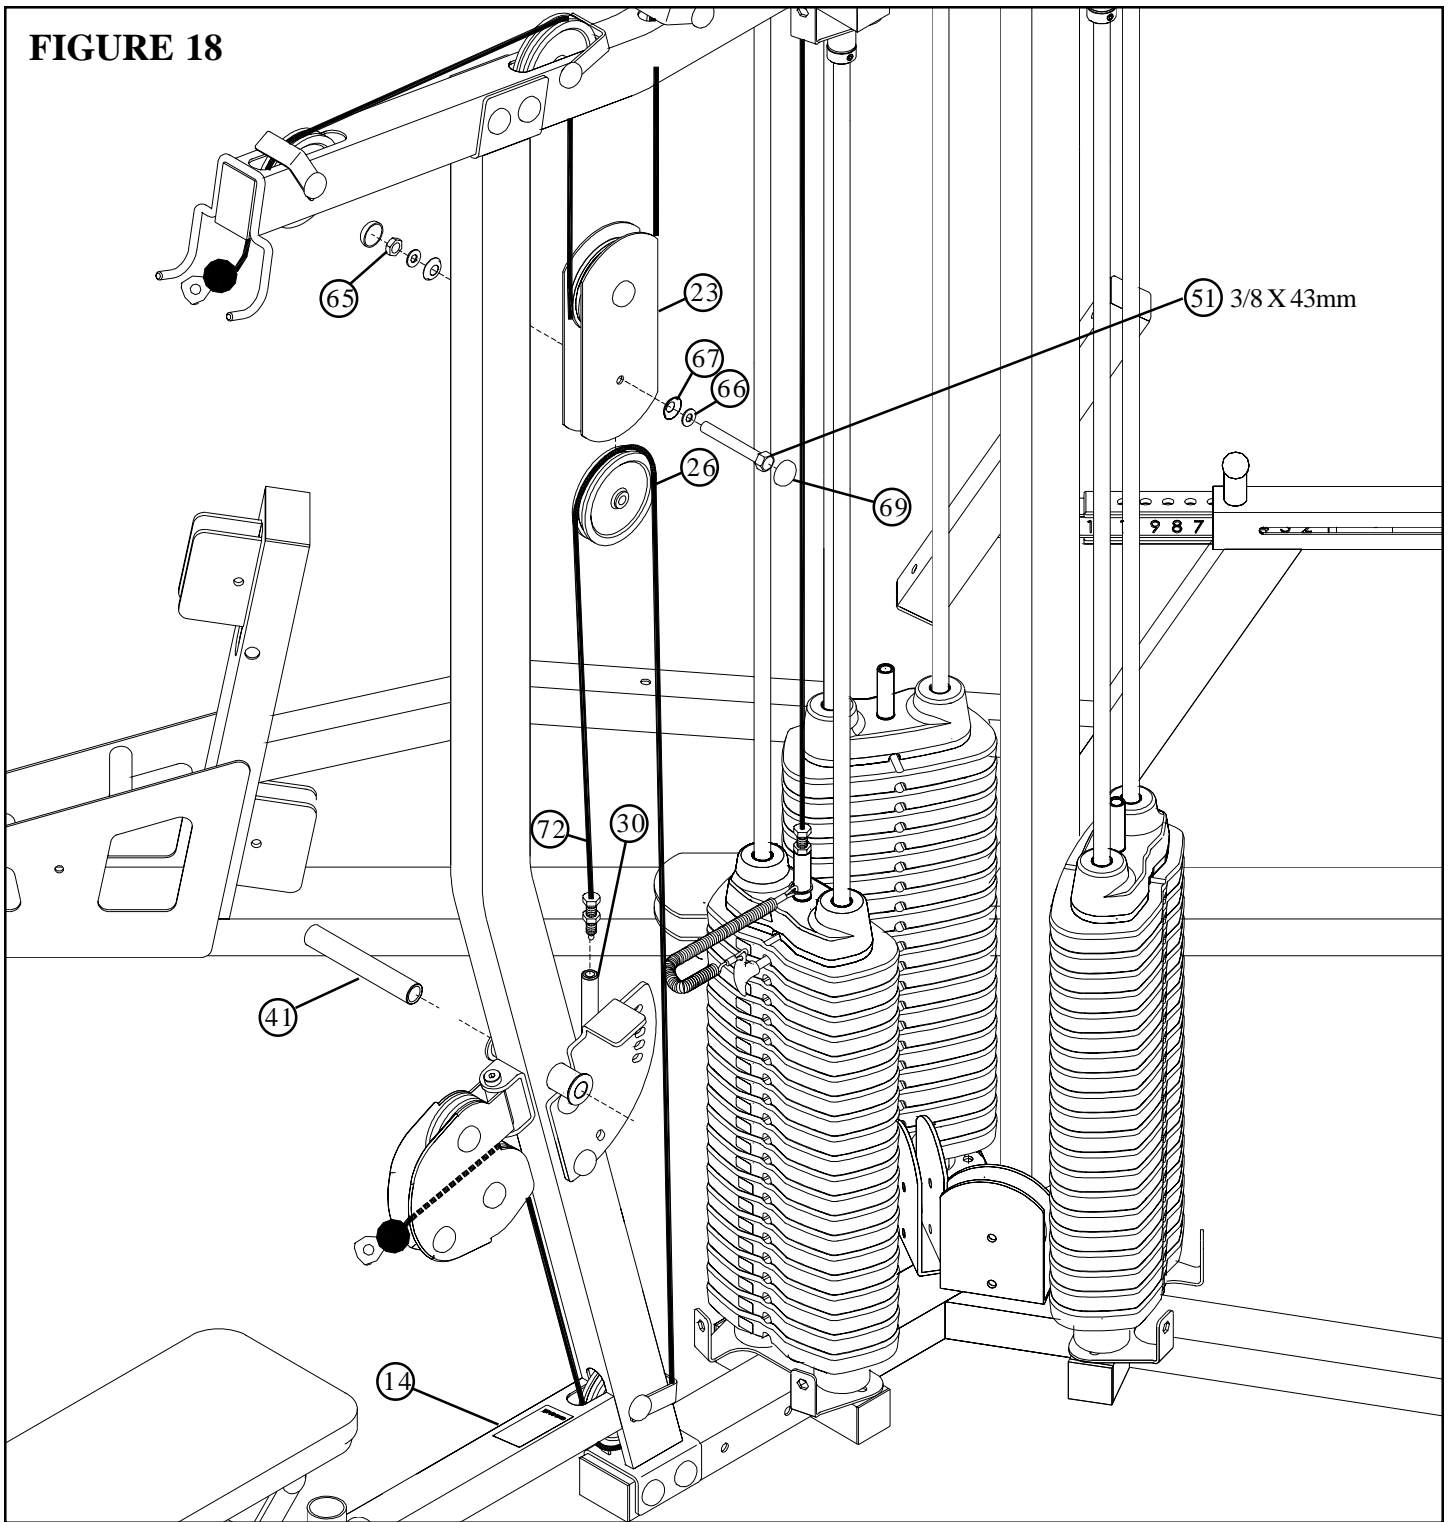

**FIGURE 17**
- Route the ROW CABLE (72) around one 4-1/2" PULLEY (26) and assemble the 4-1/2" PULLEY and one 3-1/2" PULLEY (27) to the SWIVEL PULLEY (17) using six BLACK RH CAPS (68), three 3/8 X 43mm BOLTS (51), six 3/8" SAE WASHERS (66), six 3/8" RH WASHERS (67) and three 3/8" LOW HEIGHT LOCK NUTS (65) as shown in FIGURE 17.
- Route the ROW CABLE (72) through the LAT/LOW FRAME (14) and assemble one 4-1/2" PULLEY (26) using one RH CAP (69), one BLACK RH CAP (68), one 3/8 X 70mm BOLT (56), two 3/8" SAE WASHERS (66), two 3/8" RH WASHERS (67), one 2-7/8 X 2-1/4" CABLE CLIP (28), two 3/8 X 1/2" FLANGE SPACERS (46) and one 3/8" LOW HEIGHT LOCK NUT (65) as shown in FIGURE 17.